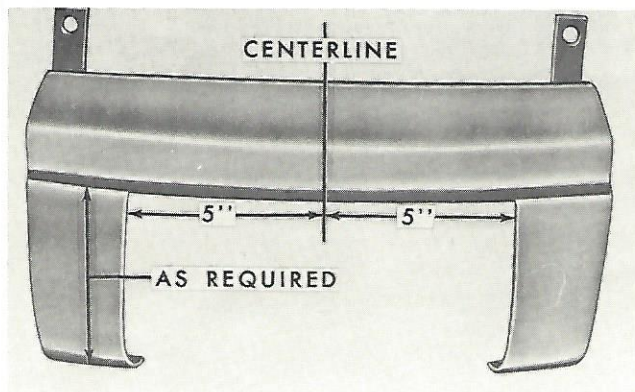

Figure 5
- b. Find the center line of the grille and mark it as shown in Figure 5.
- c. Cut out the sheet metal to the dimensions shown in Figure 5. Smooth the edges of the sheet metal. The vertical dimension will vary according to the tractor model being used.